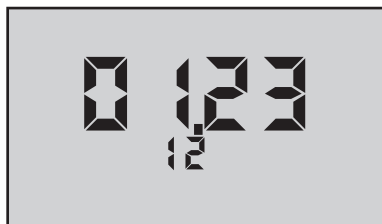

Figure 12
Example shown in Figure 12 is in US format, i.e., mo/dy/yr.
2. Press $\left(\frac{\text{MR}}{\blacktriangledown} \right)$ repeatedly until the date is displayed (scrolling through stored readings, “PC OFF”, “CLR ALL” and time to the date, e.g. “01.23 12” (Figure 12), January 23, 2012).